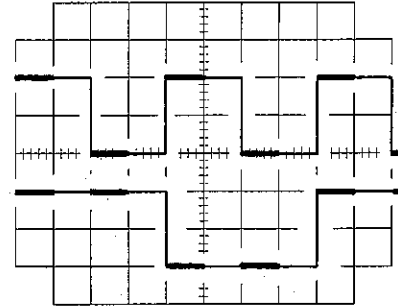

Fig. 9. Oscilloscope display with Z-axis input.
The trace displayed on the screen may be intensity-modulated (Z-axis input) where frequency or time-scale marks are required. A 5-volt peak-to-peak or greater signal applied to the Z-AXIS INPUT jack (29) on the rear of the oscilloscope will provide alternate brightness and blanking of the trace. Positive voltage input increases brightness. See Fig. 9.